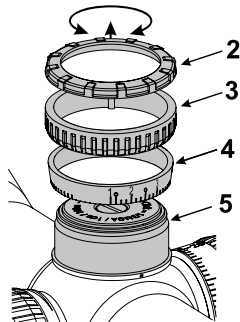

Fig. 3
After aligning the weapon on a 100 m target, the ballistic ring (4) that corresponds to the used load is affixed to the rotary knob (5) (Fig. 3).